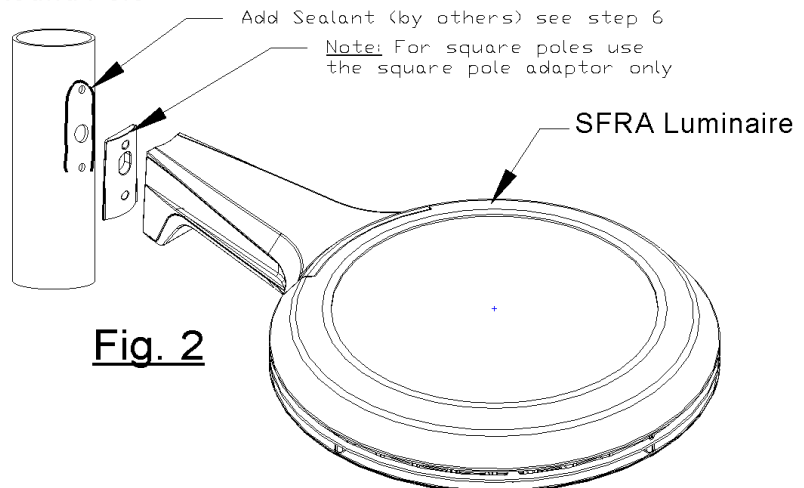

Fig. 2
6. Apply bead of suitable weatherproof sealant along horizontal top, left and right edges of cast mounting arm, where it contacts the pole to prevent water entry. (See Fig. 2)